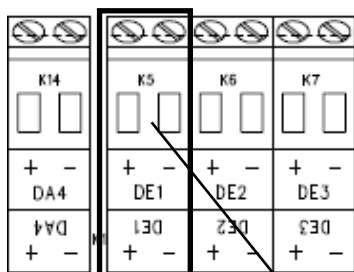

Fig. 12
1. Connect the pulse output of the gas meter to the “DE1” terminal (**1** in Fig. 12, p. 55) of the EK280.
1. Connect the encoder of the gas meter to the “DE1” terminal (**1** in Fig. 12, p. 55) of the EK280.
1. Connect the high frequency pulse output of the gas meter to the “DE1” terminal (**1** in Fig. 12, p. 55) of the EK280.